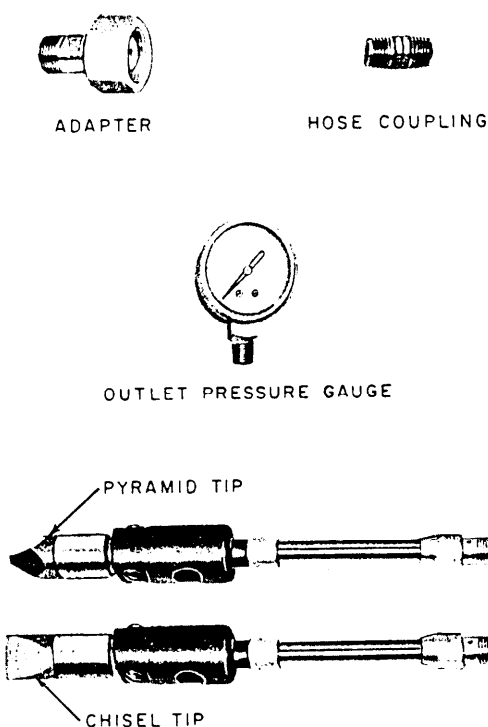

Fig. 3 - Optional Parts for F and G Acetylene Torches
- 2.06 The following optional parts for the F and G acetylene torches are illustrated in Fig. 3